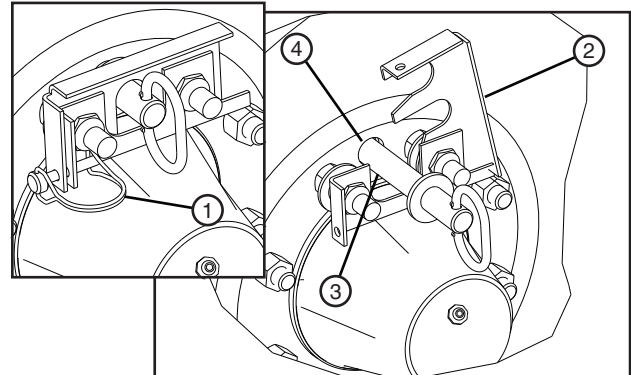

Figure 59-1 1. Lynch Pin 2. Retainer Clip 3. Torque Pin 4. Hub Torque Pin Receiver
5. Remove the torque pin from the hub torque pin receiver of both cart wheels. This will allow both wheels to rotate. See figure 59-1.